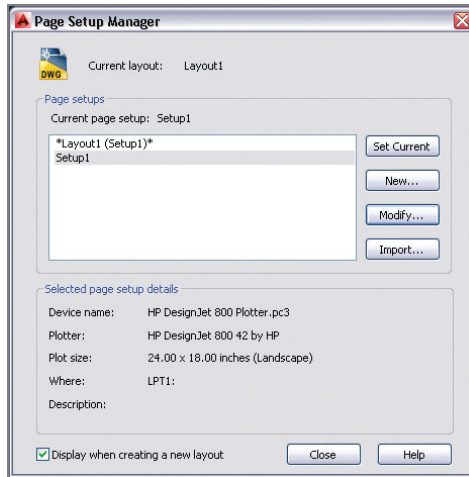

FIGURE 14.28 Saving a page setup for use in the next layout
5. The Page Setup Manager dialog box now lists Setup1 as a saved page setup. Select Display When Creating A New Layout (see Figure 14.28). Click the Set Current button, and then click Close.